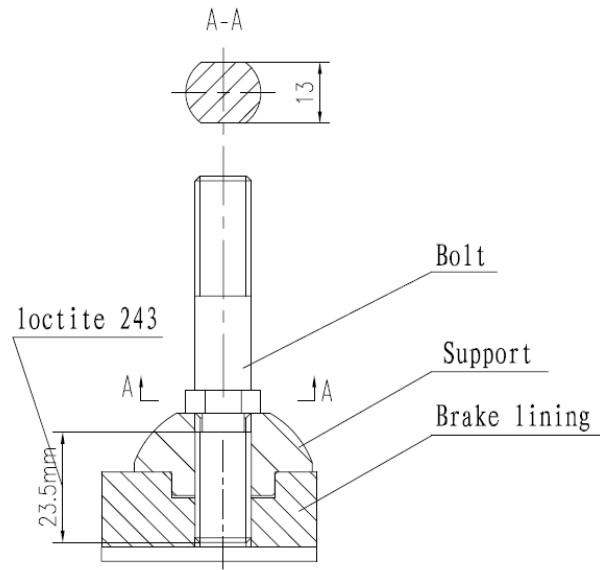

Figure 36 Emergency Brake Lining
- Remove the bolt, separate Brake lining from the support. See Figure 36.
- Apply Loctite 243 on bolt see figure 36 below. Tighten bolt to 60Nm (45 ft-lb).